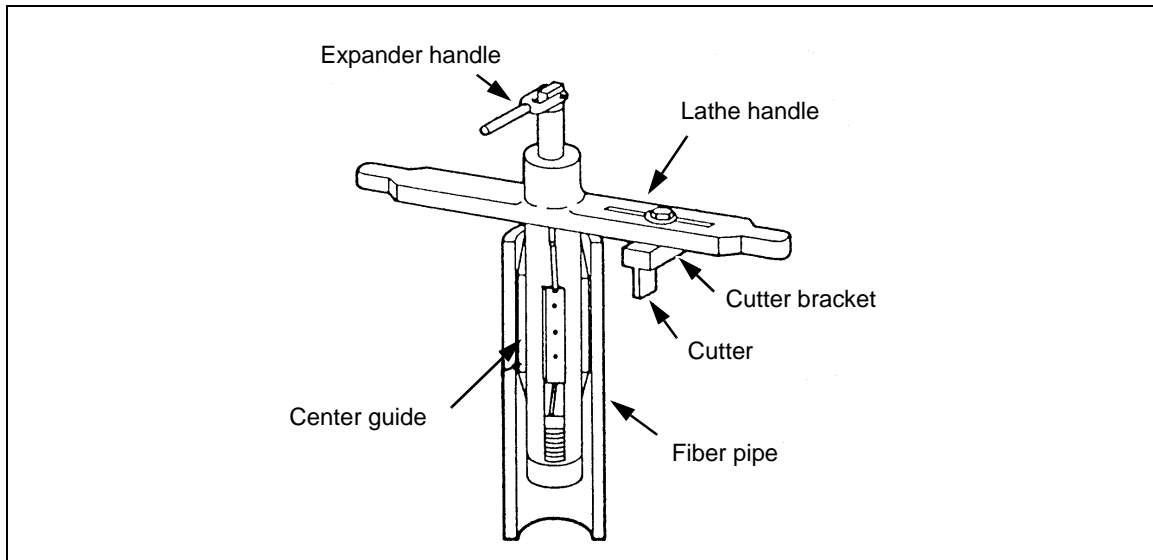

Figure 6-49. Fiber-Pipe Tapering Tool
Step 2. Insert the center guide of the tapering tool (*Figure 6-49, page 6-42*) into the pipe until the cutter bracket rests on the end of the pipe.